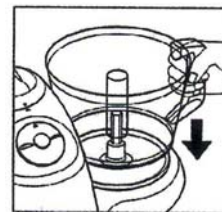

Fig. 1
- Place the food processor bowl onto the processor body. There is no need to turn the bowl. (Fig. 1)